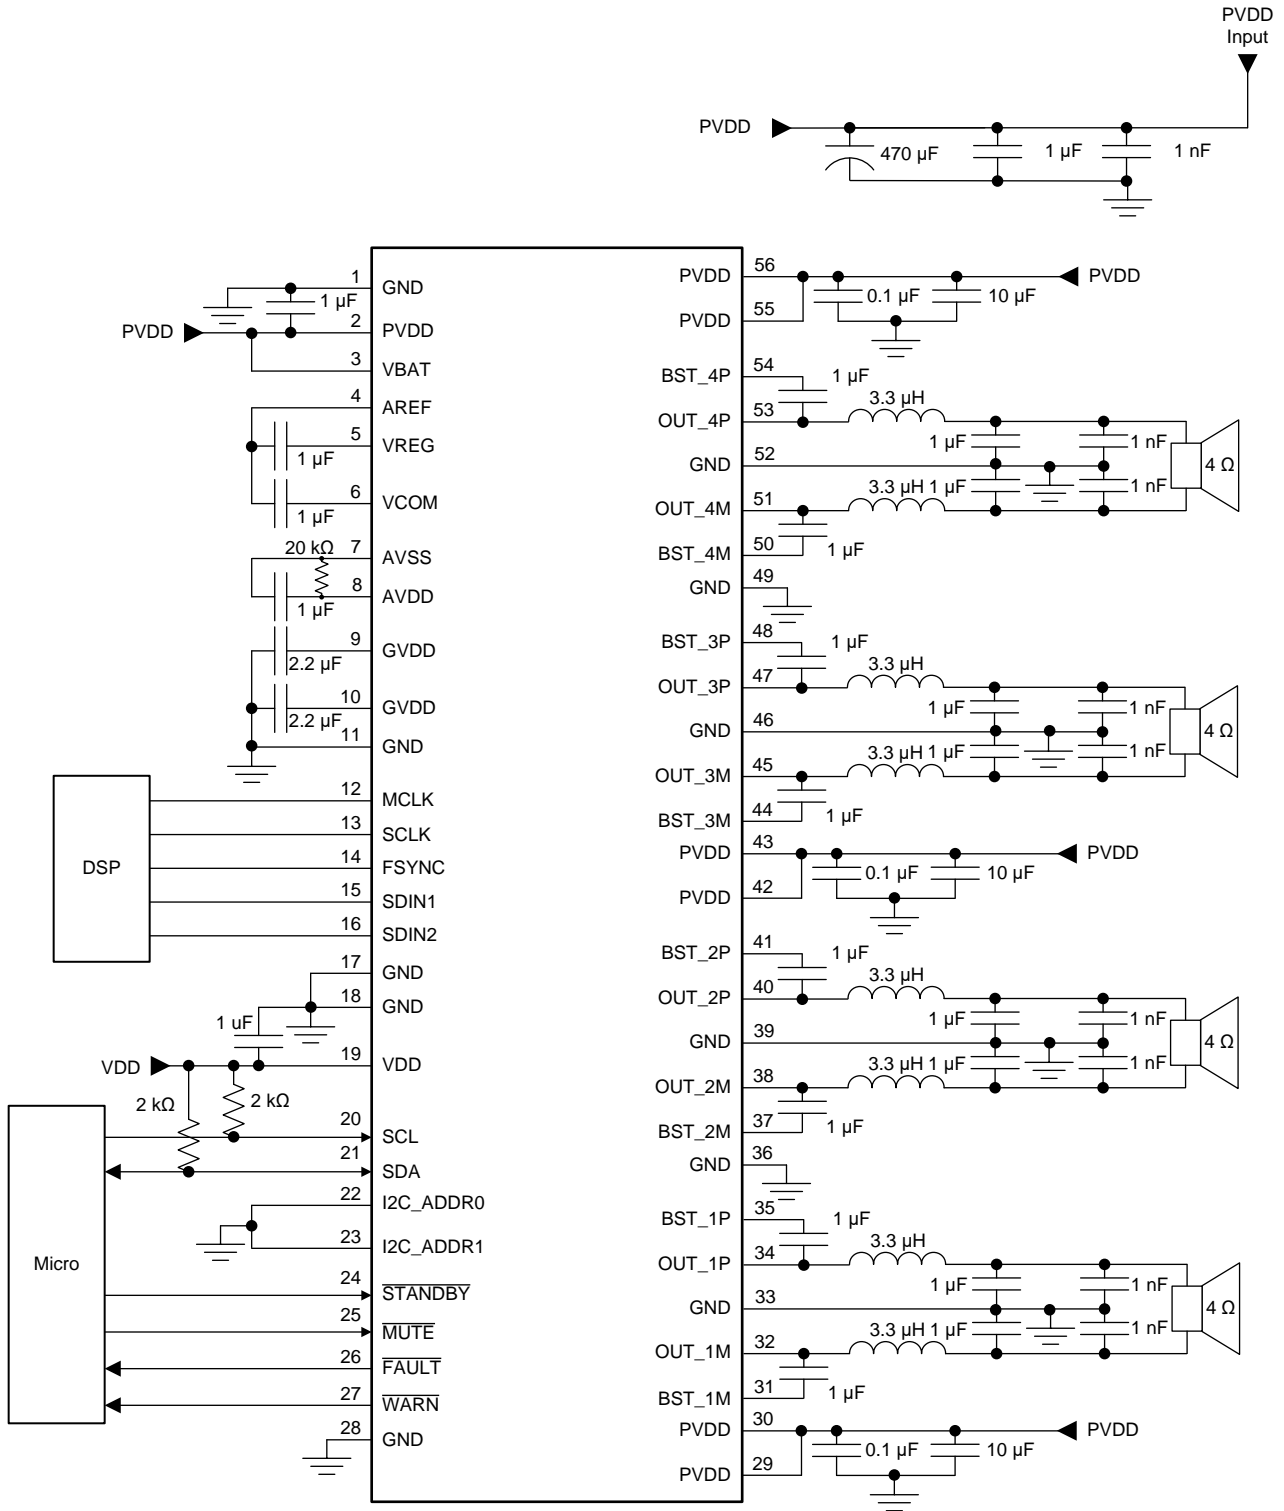

Figure 79. TAS6424M-Q1 Typical 4-Channel BTL Application Schematic
Figure 79 shows the schematic of a typical 4-channel solution for a head-unit application.
- With the requirements, adjust the typical application schematic in Figure 79 for the input connections.